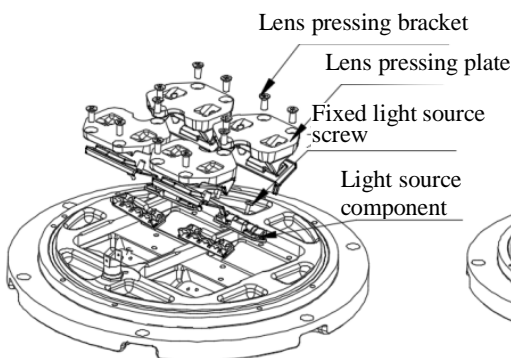

Figure 4-8
- With the socket head wrench, dismount M5×12 screws and take down the prism pressing bracket, prism washer, lens and lens gasket sleeve in succession (see Figures 4-8 and 4-9);